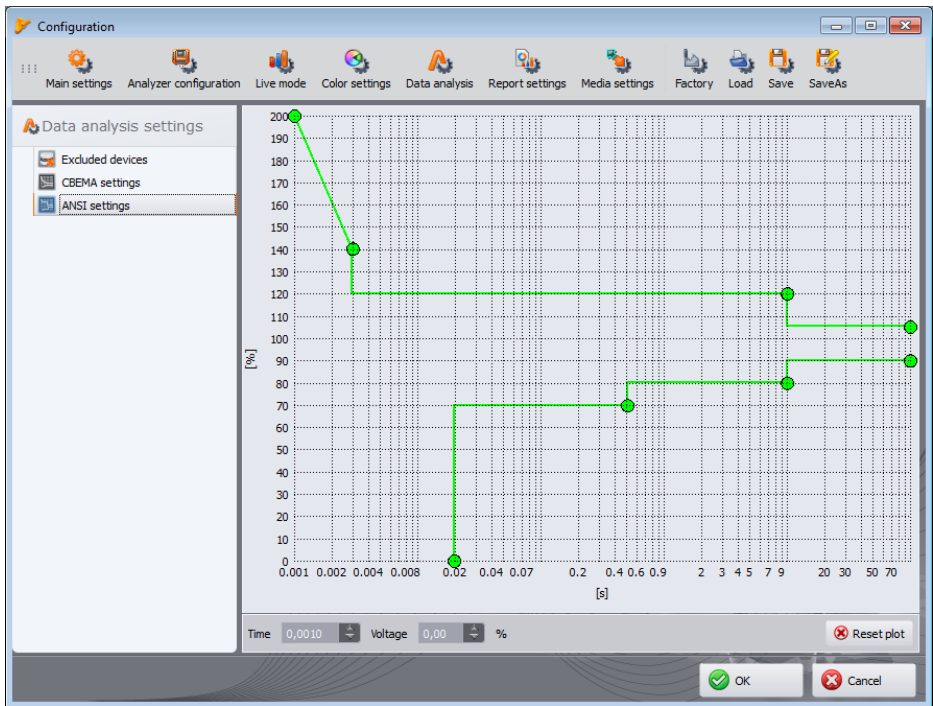

Fig. 74. Configuration - ANSI graph settings.
- **Settings of ANSI graphs** – similarly as in case of CBEMA graphs - enables user to change the default criteria for ANSI graphs (Fig. 74). Changes are introduced by changing the position of the nodes in the graph. Default settings may be restored by clicking **Reset graph** button.